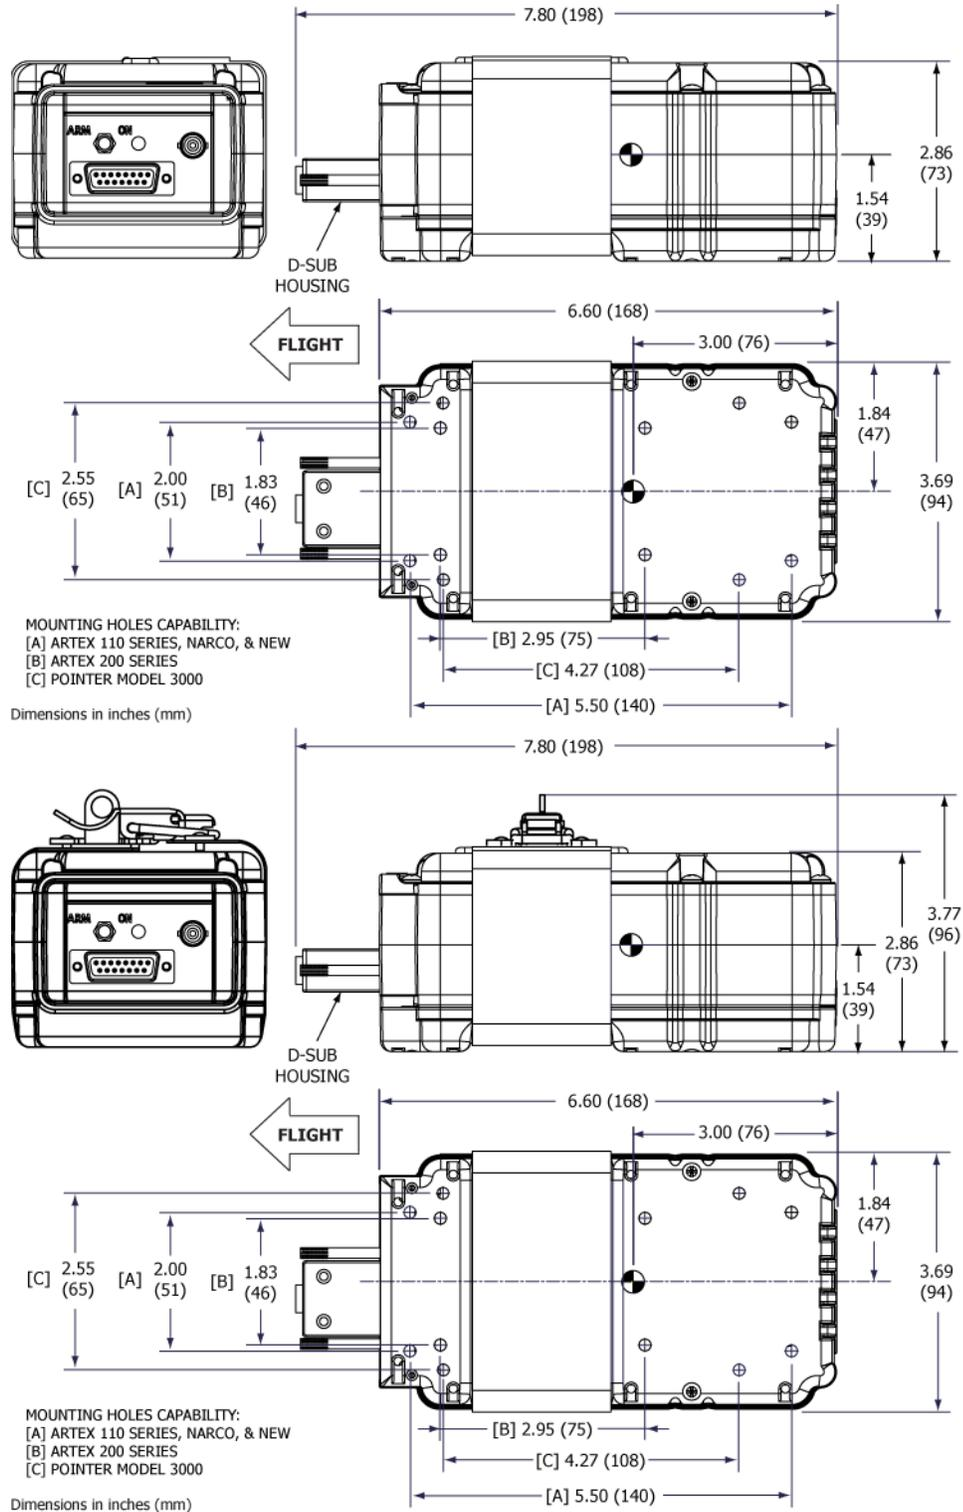
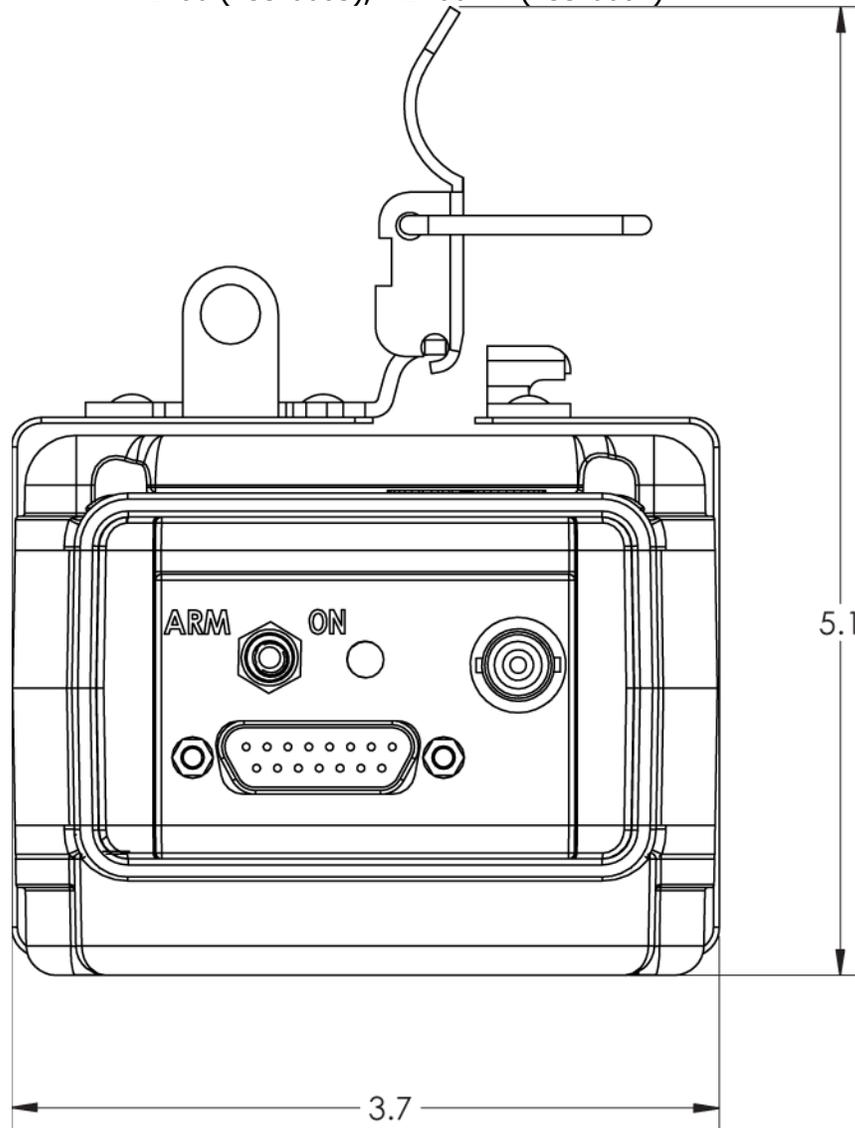

Figure 13 ME406 Series ELT Outline and Dimensions
Figure 14 ME406 Metal Strap Minimum Clearance Dimensions
- 1) Select a suitable location for the ELT mounting tray. See Figure 13 ME406 Series ELT Outline and Dimensions on page 45 and Figure 14 ME406 Metal Strap Minimum Clearance Dimensions on page 46. Refer to these dimensions when determining mounting location.
- 4) Mark the four holes needed for mounting the tray, using the tray as a pattern. The hole pattern is also illustrated in Figure 13 ME406 Series ELT Outline and Dimensions on page 45.